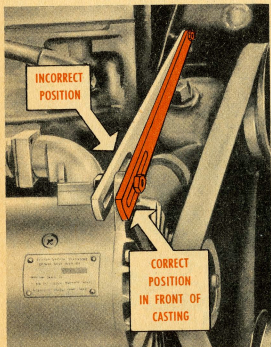

Fig. 2—A misplaced adjusting-arm'll break the M135's generator-end-castings, for sure.
that the casting will break (Fig. 2).
**3.** For a minor brake-adjustment on new linings, turn the upper cam adjusters with a 3/4" box-socket wrench until the brake lining is in contact with the drum (Fig. 2). The contact is localized over the center portion of the lining, and the shoes should be adjusted to provide a heavy drag between the lining and drum.
Fig. 2—With the wrench in a horizontal position on the cam adjuster, pull down on handle to decrease the clearance and push up to increase the clearance between the brake lining and the brake drum.